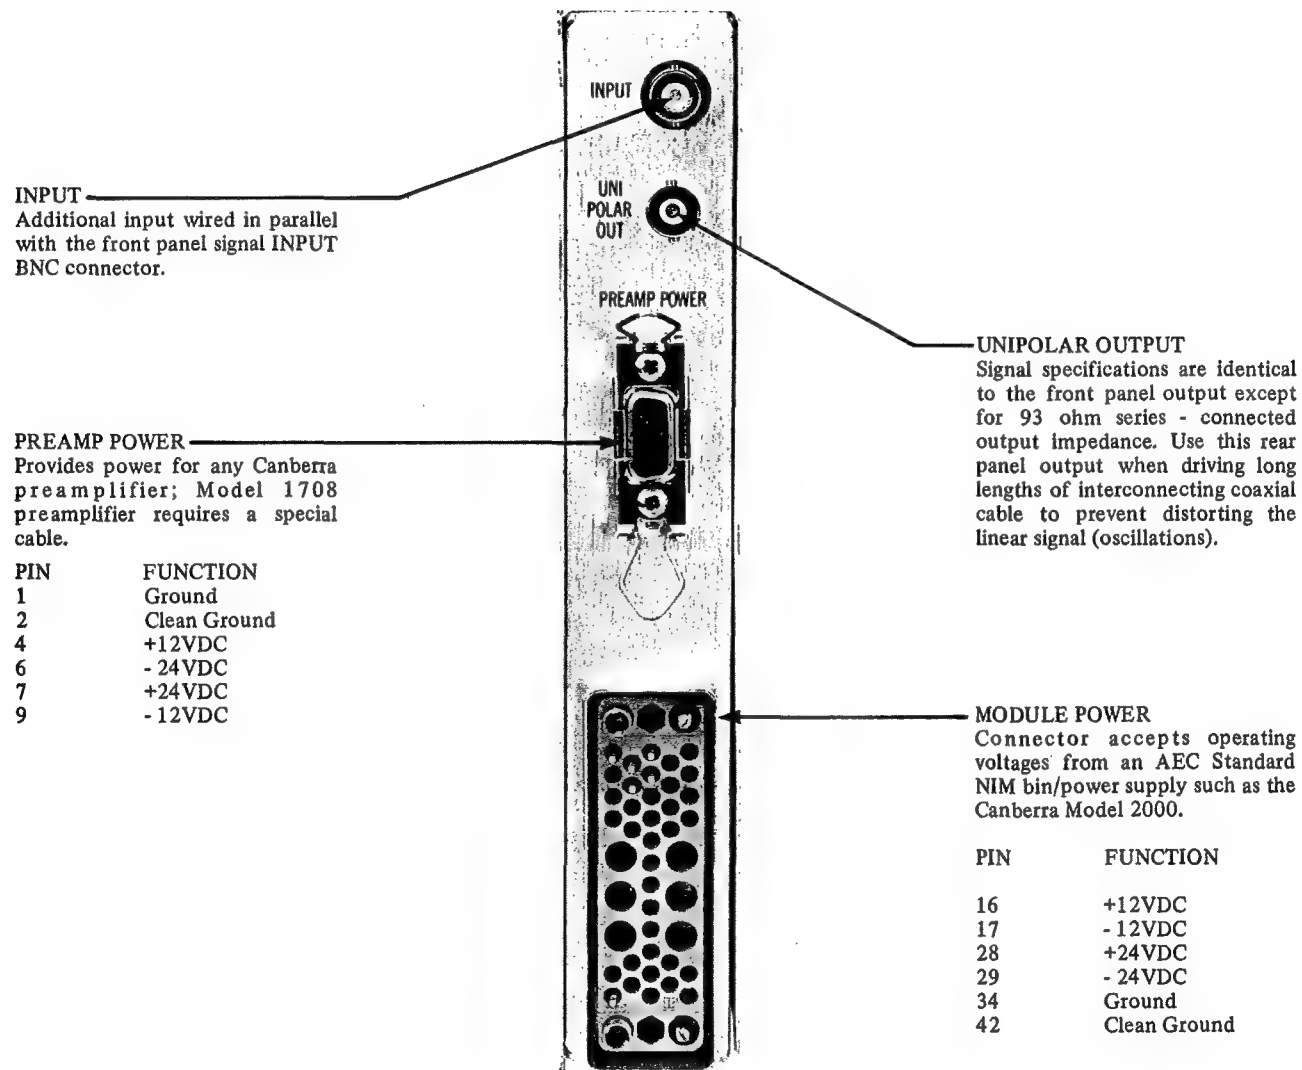

Figure 3-2. Rear Panel Controls and Connectors.
3.3 REAR PANEL (See Figure 3-2)